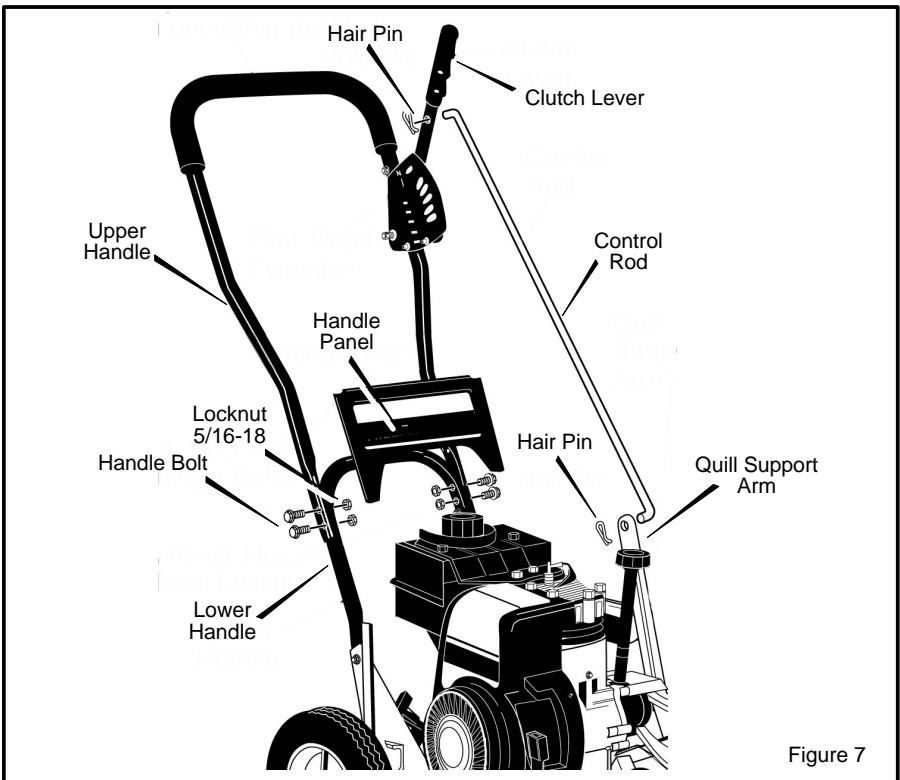

Figure 7
5. Assemble the **upper handle** and the **handle panel** to the **lower handle** with the **fasteners** shown in Figure 7. Make sure the **locknuts** are on the inside of the **lower handle**.
6. Slide one end of the **clutch rod** from left to right through the hole in the **clutch lever**. Secure with the **hair pin** shown in Figure 7.
7. Move the **clutch lever** to the first depth position. Attach the other end of the **control rod** to the **quill support arm** with the **hair pin** as shown in Figure 7.